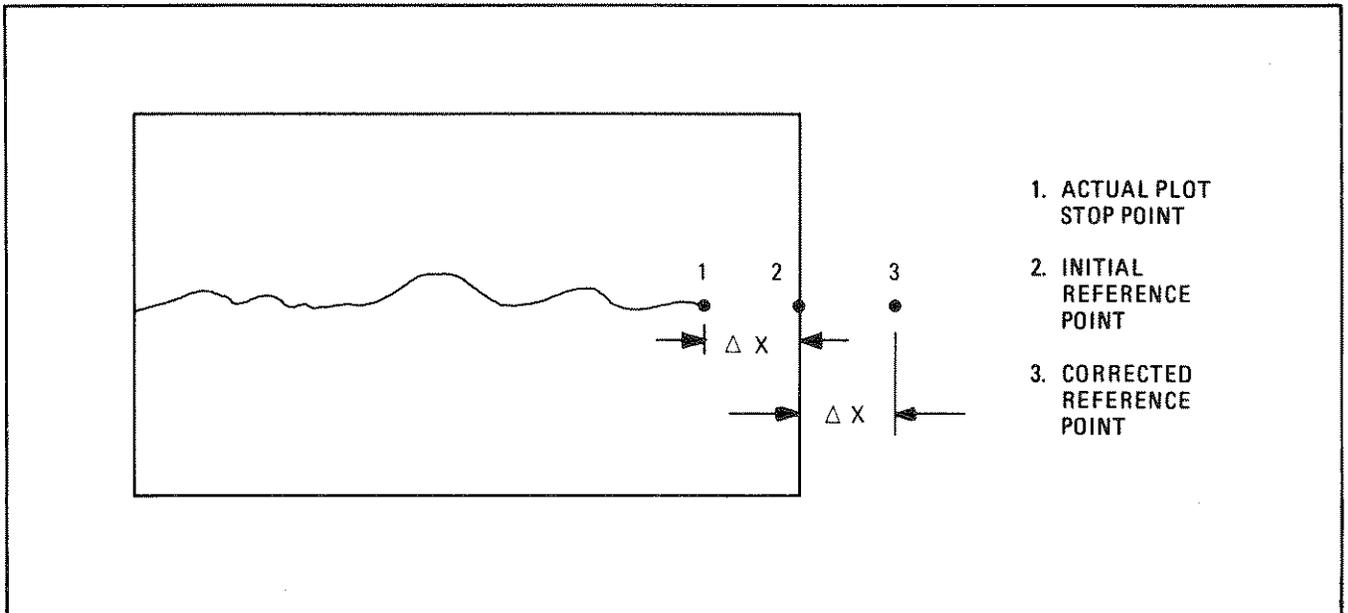

Figure 3-38. Recorder X Axis Gain Adjustment
- h. Adjust the recorder X gain to compensate for the difference between the right-side reference point and the point where the plot actually ended (see Figure 3-38). Repeat steps f and g until the plot ends at the correct plot stop point.